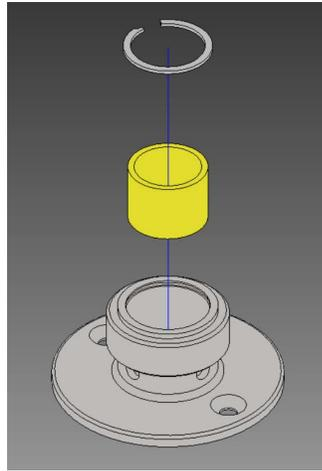

FIGURE F. 11. - INDICATOR INSTALLATION
1. OPTIONAL – If required, install the indicator and internal retaining ring (see Figure F.11.). Typically, this is only required if indicator is missing or needs replacement.